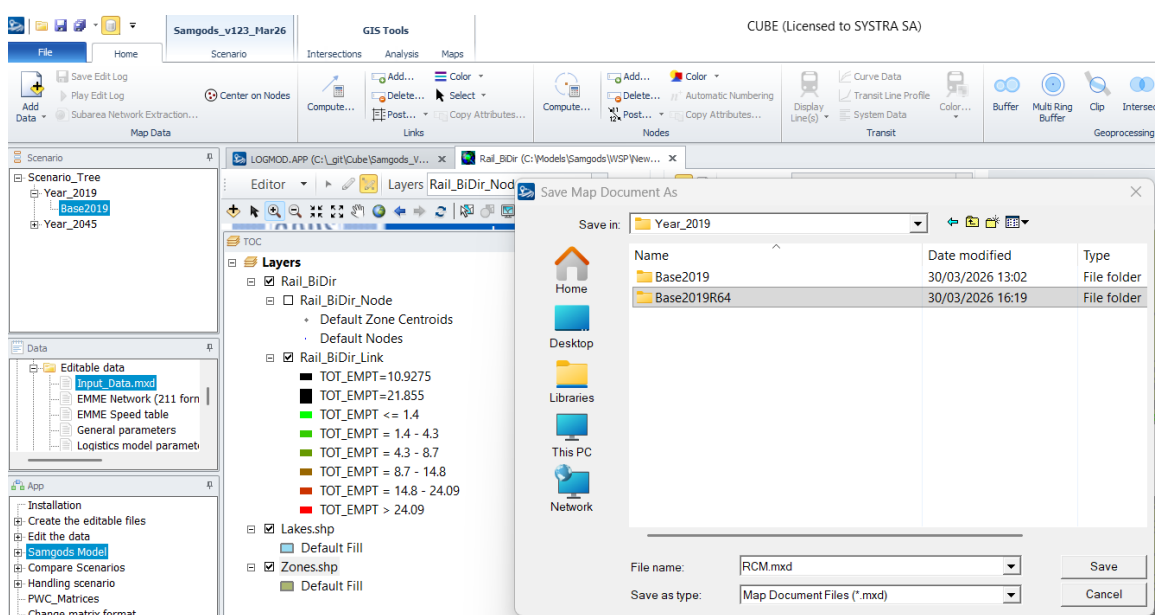

Figure 107 Save the map if necessary
- Click on "X" to close the map, the system will prompt if it is necessary save the map giving a location and a name. Select the scenario folder and give the name "RCM.mxd", see Figure 107.